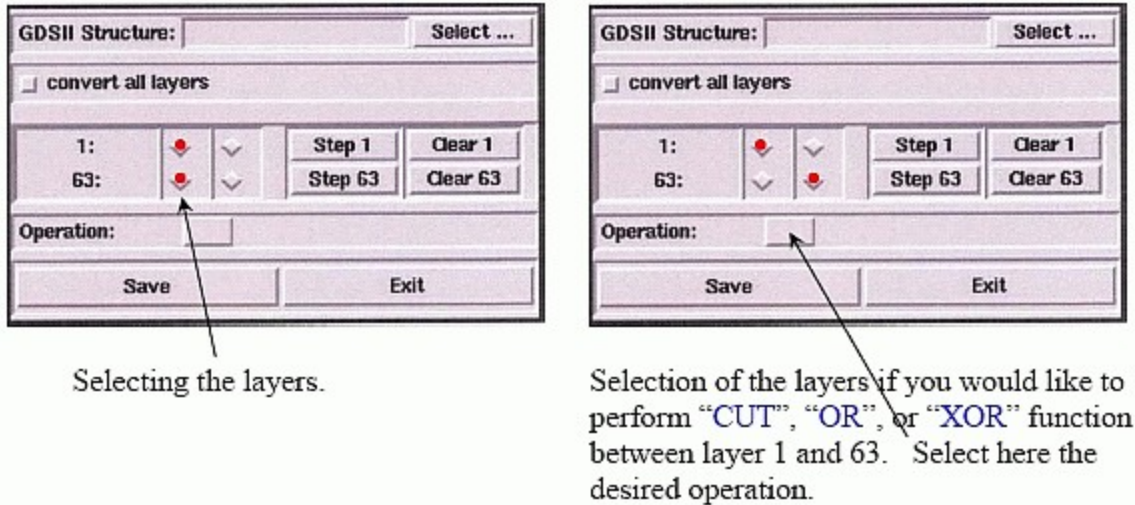
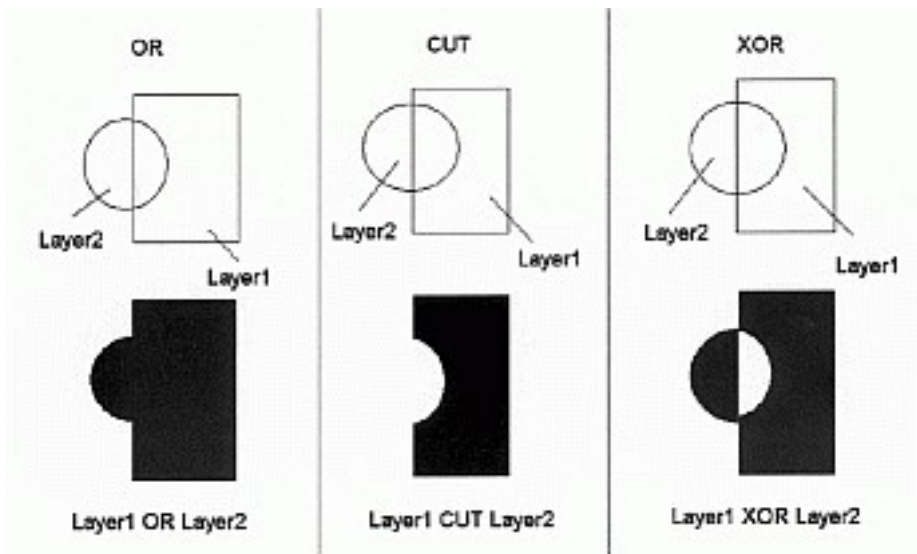

Figure 2-21: Convert GDSII merge layer information
Figure 2-22: Merge Functions
- **Convert PC merge configuration:** Select the top-level cell/structure by clicking on the “**Select...**” button (figure 2-21). Then click on the cell you wish to convert and click the “**Ok**” button.
- ❖ **Convert PC merge configuration *NO Operations*:** This means that choosing multiple layers results in an "OR" being applied. Choose just the *left most red buttons*. See the left part of figure 2-21.
- ❖ **Convert PC merge configuration *OPERATIONS*:** The operations "or", "cut", and "xor" can be applied between the layers. Choose the operation to be applied from the list by clicking on the blank button (right part of figure 2-21). See figure 2-22 for an illustration of each function. **Note:** The left-to-right order of the selected affect which layer is chosen first for the operation. **Warning:** there should only be one red button chosen in each *column*. Choosing more than one red button in the same horizontal position will have *unpredictable results*.